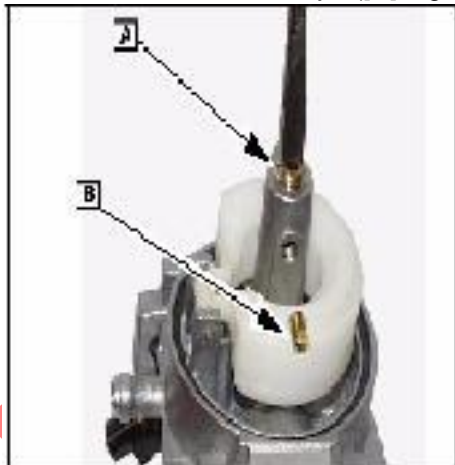

Fig. 42
CAUTION: Emulsion tube ([A] fig. 42) must be installed before main jet ([B] or damage to the threads of the emulsion tube will result.
Install emulsion tube (A) with screwdriver #19061. Install main jet ([B] Fig. 42).